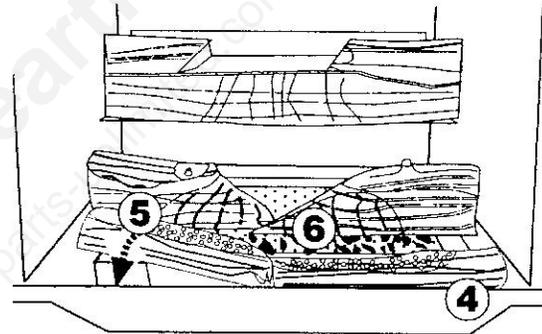

Figure 3-34. Install the Ember Logs, and the Lava Rocks.
4. Push the burner assembly fully toward the rear, by hand. Place the two front Ember Log sections (4 & 5) in the slot at the front of the firebox, shown in Fig. 3-34. Reposition the burner tray fully forward against the Ember Logs.
5. Loosely sprinkle some of the Lava Rocks sparingly on top of the burner between the Ember Logs and the Middle Logs. Do not place any lava rocks behind the middle logs. See 6, Fig. 3-34.